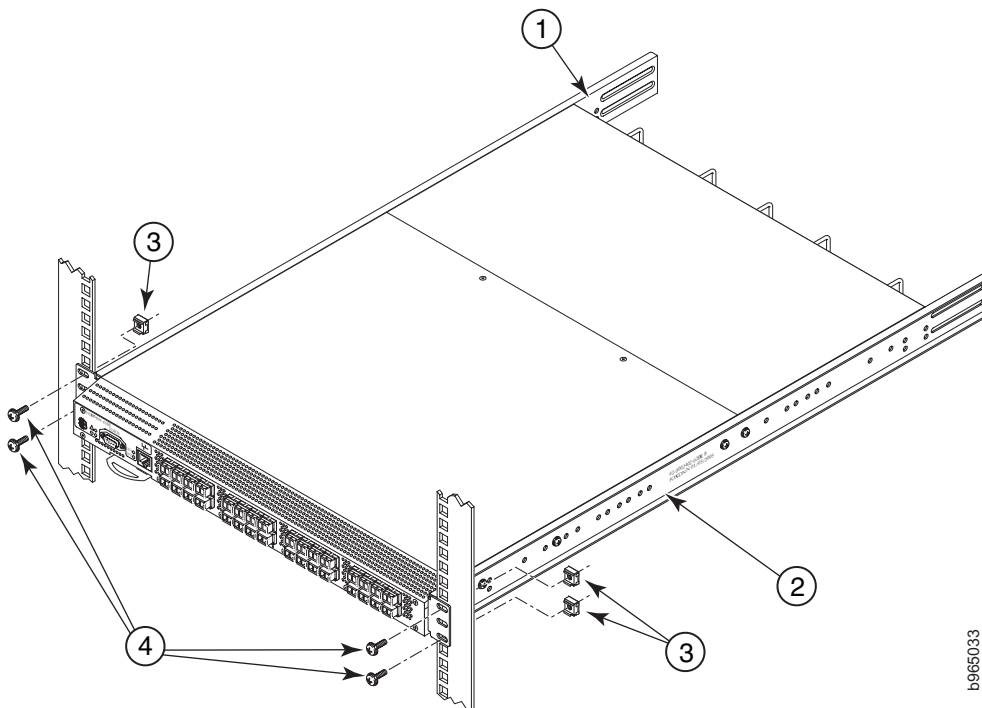

Figure 5. Positioning the switch in the cabinet
1. Position the switch in the cabinet, as shown in Figure 5, providing temporary support under the switch until the rail kit is secured to the cabinet vertical posts.